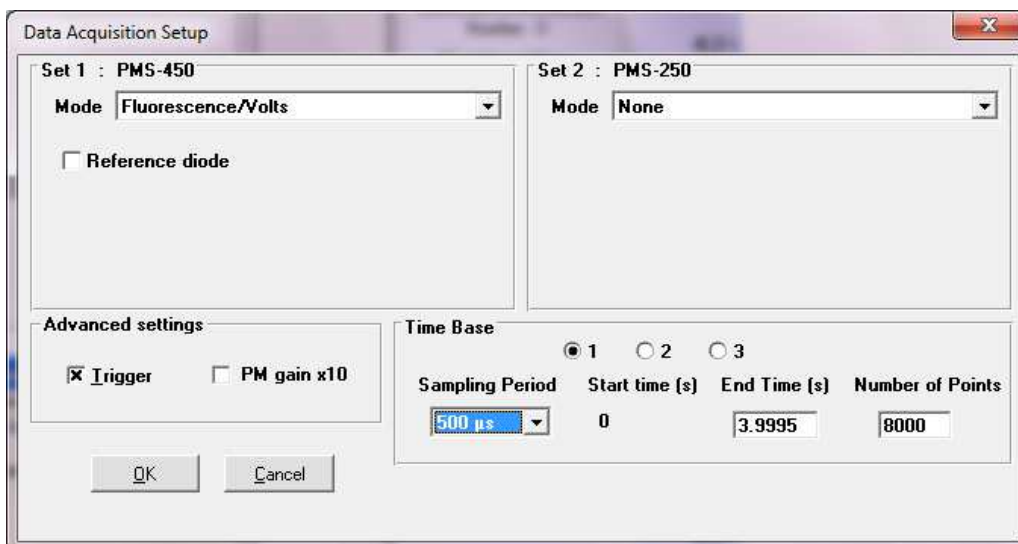

Figure 148 : Data acquisition setup window
- The data acquisition window in fluorescence mode is presented in Figure 148